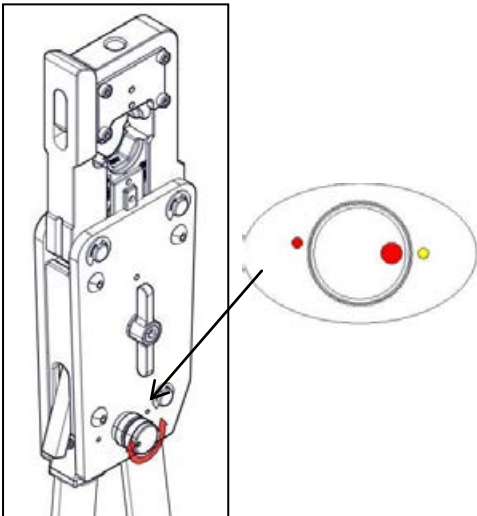

Figure 2. Release the Stroke Adjustor
(1) Release the Stroke Adjustor and the moveable handle is working then. (See Figure 2.)